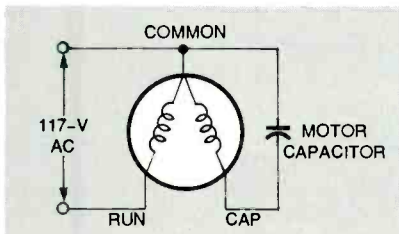

Fig. 8. This is how a typical permanent split capacitor (PSC) motor is wired. Sometimes both capacitor terminals are isolated.
**Installation.** There may be literally hundreds of models of warm-air furnace in use today, so it is not possible to address each and every one. However, most furnaces will have either a single-speed or multi-speed permanent split-capacitor (PSC) blower motor (Fig. 8). Units designed to handle both air conditioning and heating will usually have a two-, three-, or four-speed motor that is automatically set to high speed for cooling and low speed for heating with a switching relay. Two such wiring diagrams are illustrated in Figs. 9-a and 9-b.